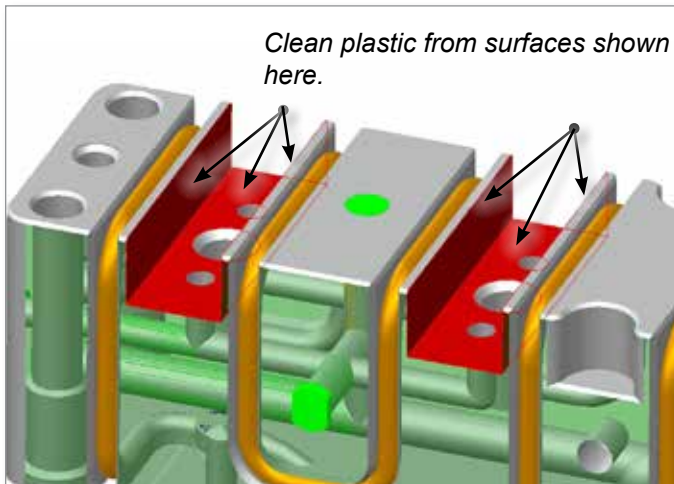

Figure 5-86 Remove plastic residue from surfaces
1. Clean any plastic residue from hot runner interface surfaces. See Figure 5-86.